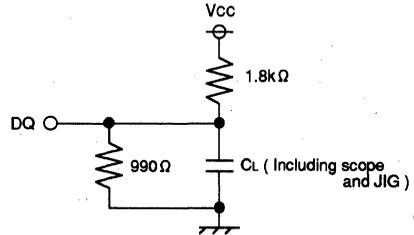

Fig.1 Output load
(1) MEASUREMENT CONDITIONS
- Output loads Fig.1, $C_L = 100pF$ (-10L,-10LL)